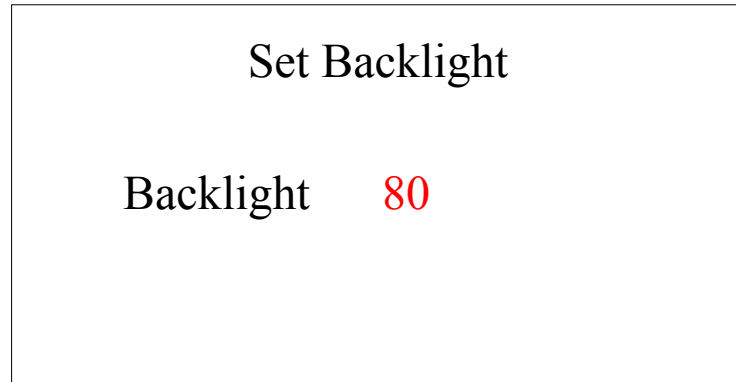

Figure-27 Set Backlight
3.2.3 Set Backlight. First press S1 go to set interface, Second press S2 or S3 choose Set Backlight position as shown in Figure-15, Third press S1 go to Figure-27.